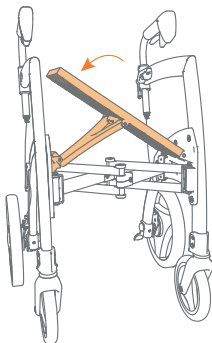

Figure 15: Push the seat down till you hear a 'click'.
- Push the seat down until it clicks into place. Important: the seat is not secured until you have clearly heard it 'click' (**Figure 15**).